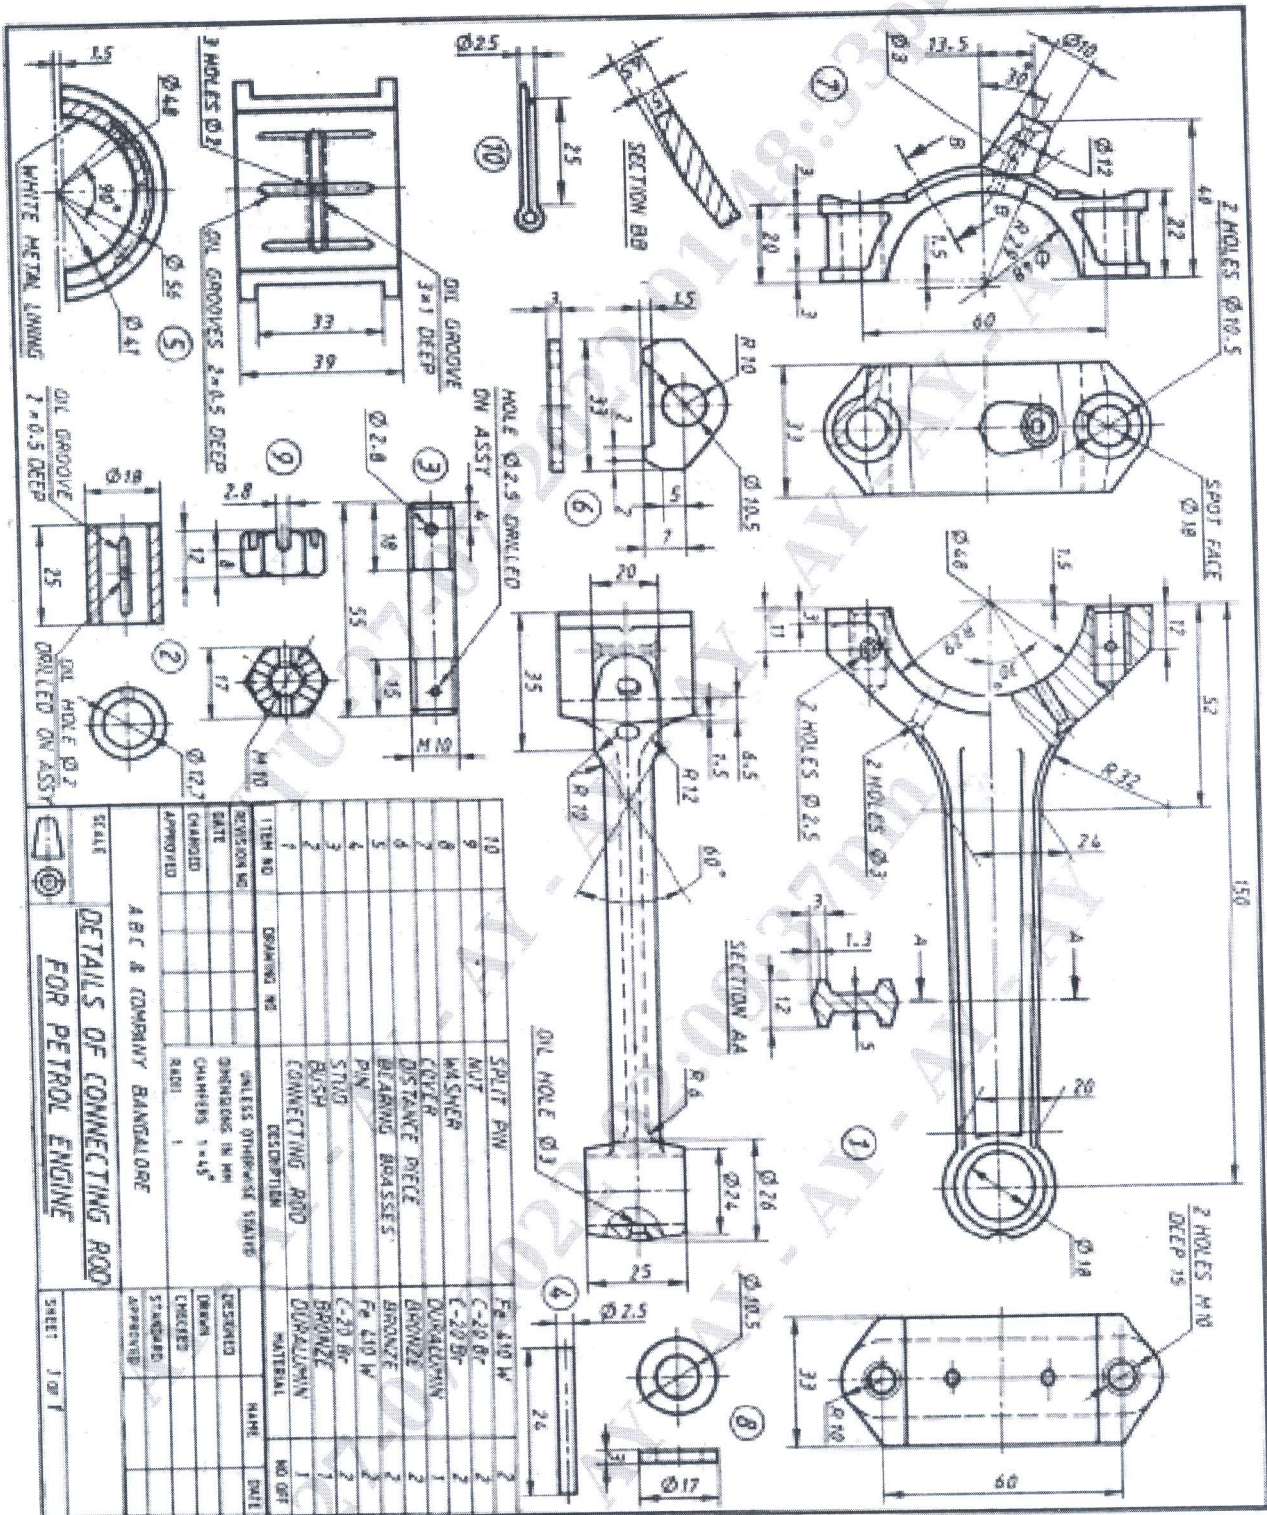

Figure 3: Details of Connecting rod of IC Engine
6. Figure 3 shows the details of a Connecting rod for Petrol Engine. Assemble The parts of the Connecting rod and show the following views